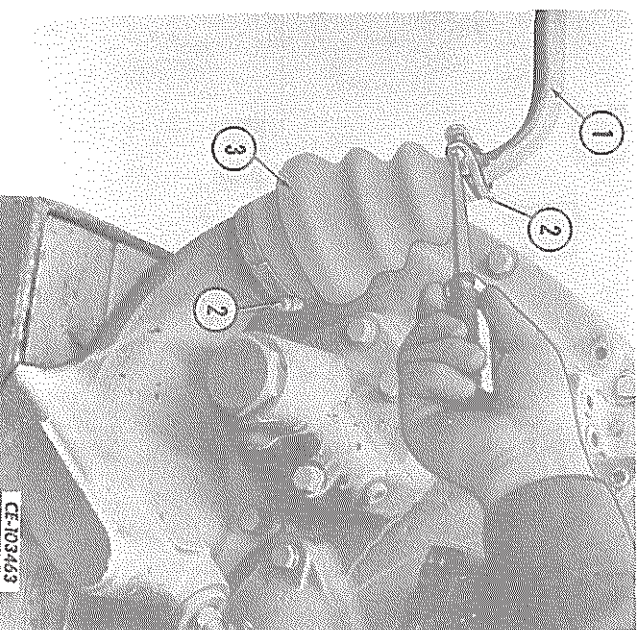

FIG. 13 — Removing the Shift Lever Boot Clamp
1. Remove the ball from the end of the shift lever (1, Fig. 13). Remove the upper and lower boot clamps (2) and remove the boot (3) and clamps from the lever.